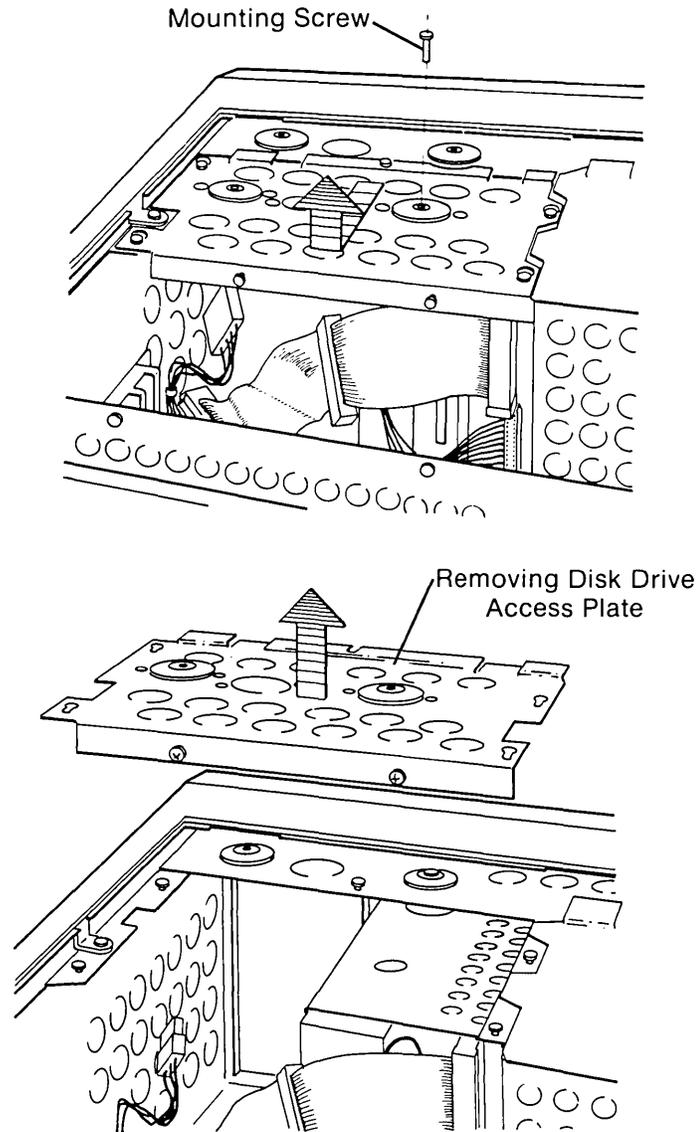

Figure 7-25. Removing the Disk Drive Access Plate.
Loosen (DO NOT REMOVE) the five (5) screws that secure the disk drive access plate. Remove the disk drive's top rear mounting screw (see Figure 7-25).